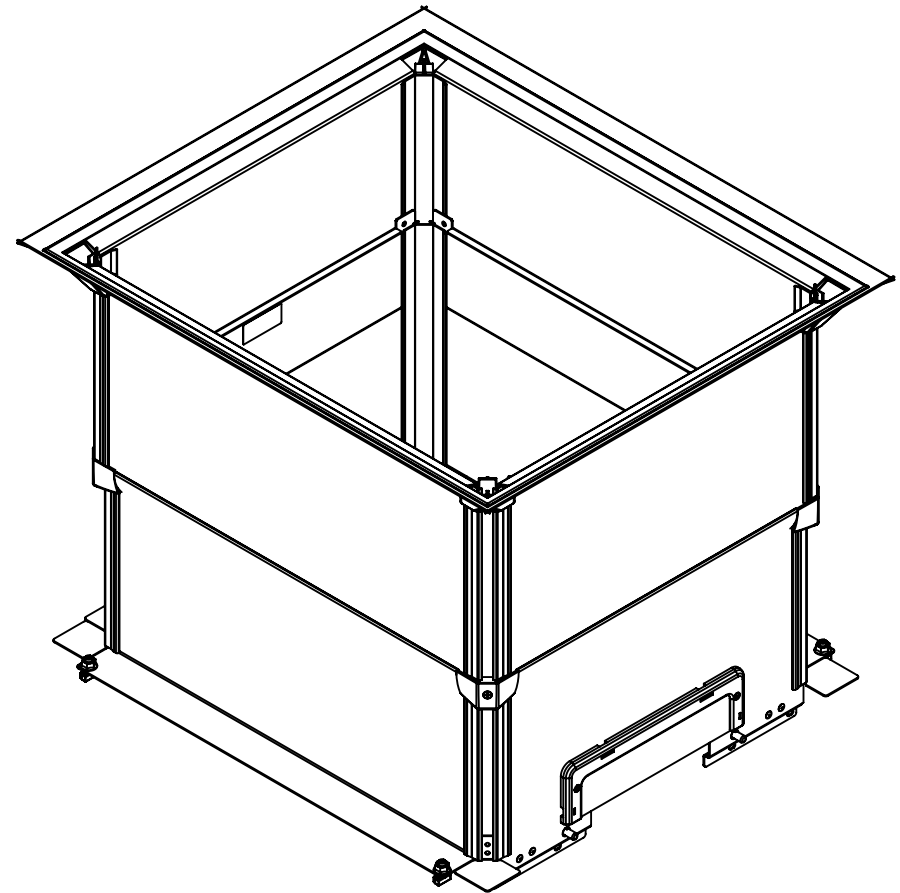

Fig. 6
6. Push brush assembly onto opening until it snaps into place (Fig. 6 shows brush in completely assembled duct).